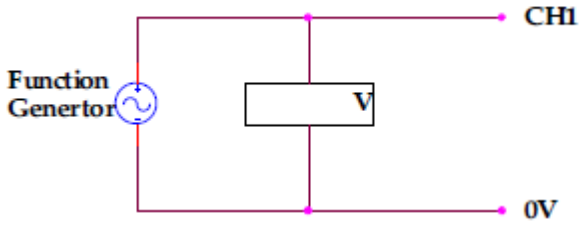

Figure 2
4. Connect the circuit as shown in Figure 2
6. Repeat procedure (5) with other voltage and frequency, as shown in Table 2.